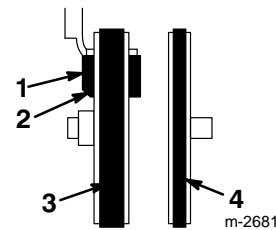

Figure 30
15. Ensure that the brake pad is properly installed on the brake arm. The angled cut-off on brake pad must be positioned as shown in Figure 30.
- Make sure that the brake pad is properly installed on brake arm. The angled cut-off on brake pad must be positioned as shown in Figure 30.